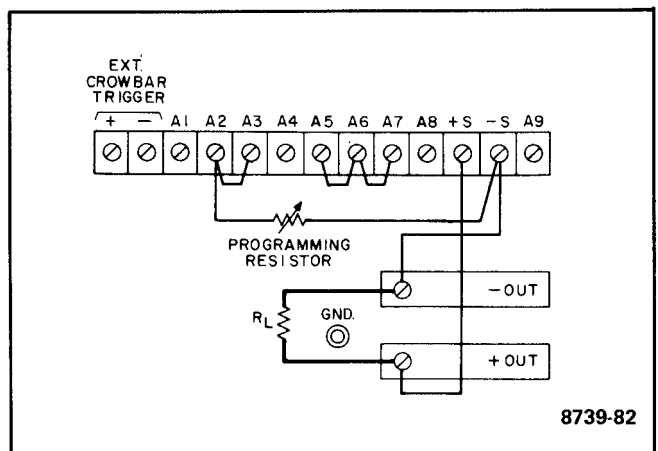

Figure 3-4. Resistance Programming of Output Voltage
**3-39 Constant Voltage Output, Resistance Input.** The rear panel connections shown in Figure 3-4 allow the output voltage to be varied by using an external resistor to program the supply. The supply's constant voltage programming current determines its programming coefficient. In the supplies covered by this manual, this programming current is factory adjusted to within 1% of 5mA, resulting in a programming coefficient of 200 ohms per volt. If a greater programming accuracy is required, it can be obtained either by changing resistor R3 as discussed in paragraph 5-86 or, if the instrument is equipped with Options 020 or 022, by adjusting potentiometer R112 as discussed in paragraph 5-87. (See Figs. 6-1 through 6-8.)